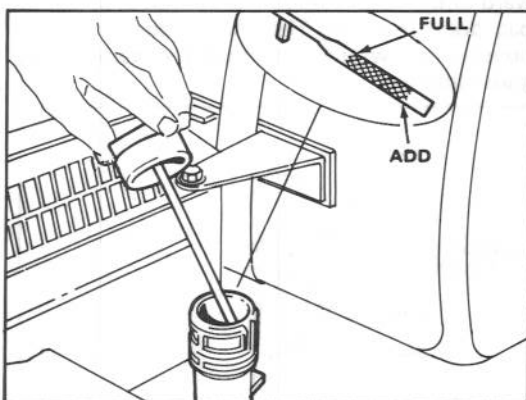

Figure 4
3. Wipe dipstick and insert it into filler neck. Rotate cap clockwise 1/4 turn. Then remove dipstick and check level of oil (Fig. 4). If level is low, add only enough to raise level to FULL mark on dipstick. **DO NOT FILL ABOVE FULL MARK BECAUSE ENGINE COULD BE DAMAGED WHEN STARTED.**